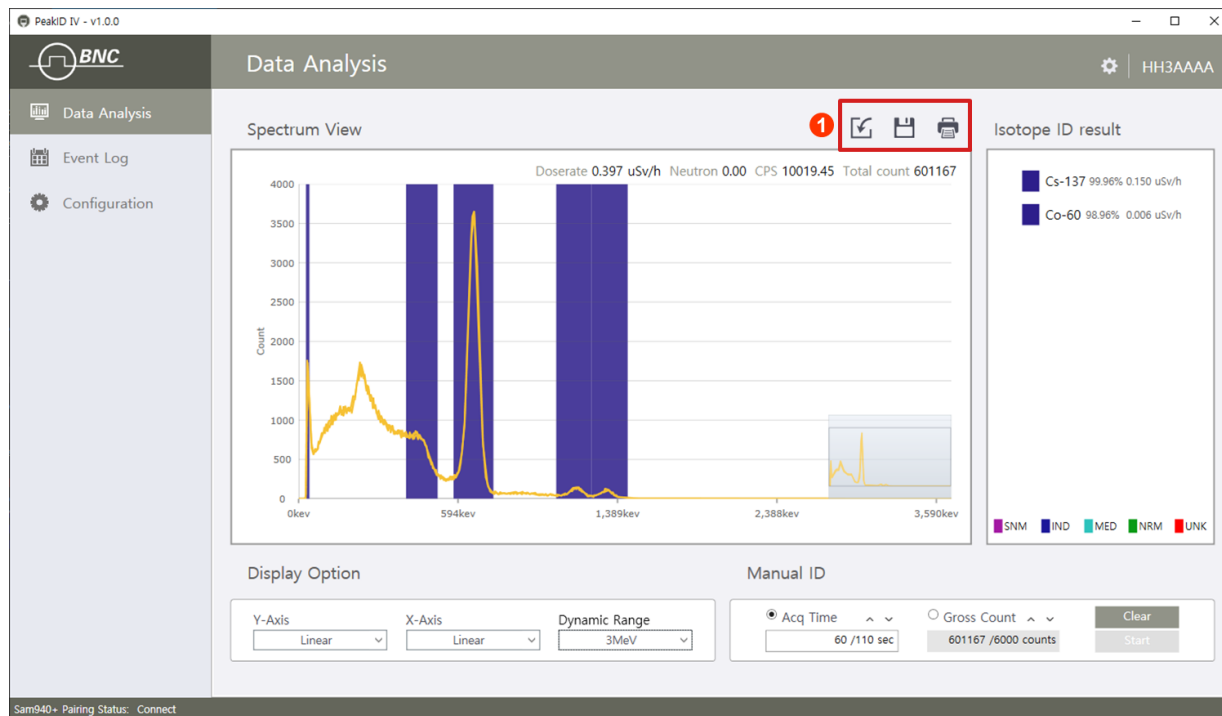

Figure 7.7.11. Data Analysis menu function buttons
1. Click the disk icon  (Figure 7.7.11.). The directory screen will appear.
2. Click the printer  icon (Figure 7.7.11.).